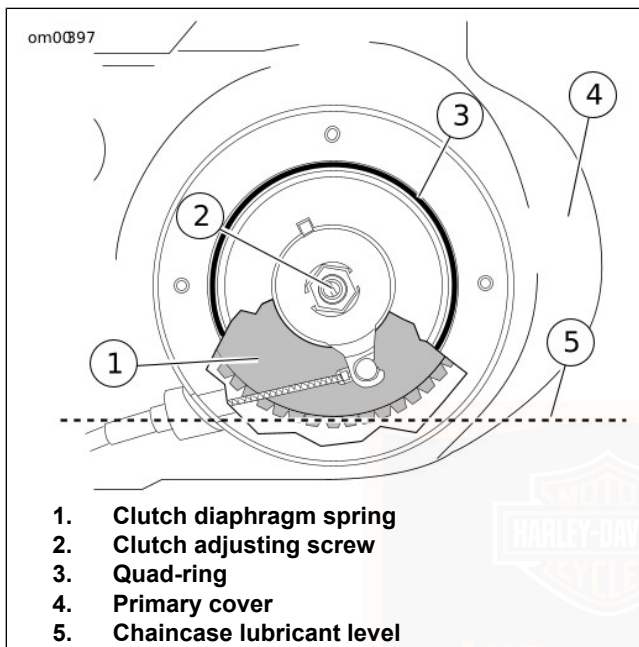

Figure 44. Chaincase Lubricant Level: Sportster Models
4. See Figure 44. Verify that lubricant level (5) is even with bottom of clutch diaphragm spring (1).
8. See Figure 44. Add 32 fluid ounces (946 milliliters) of Harley-Davidson SPORT-TRANS FLUID (Part No. 98854-96 quart or Part No. 98855-96 gallon) through clutch inspection cover opening or until the lubricant reaches the bottom of clutch diaphragm spring (1).